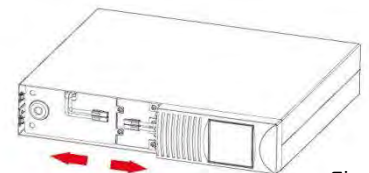

Fig. 6
6. Disconnect the battery wires (fig. 6).